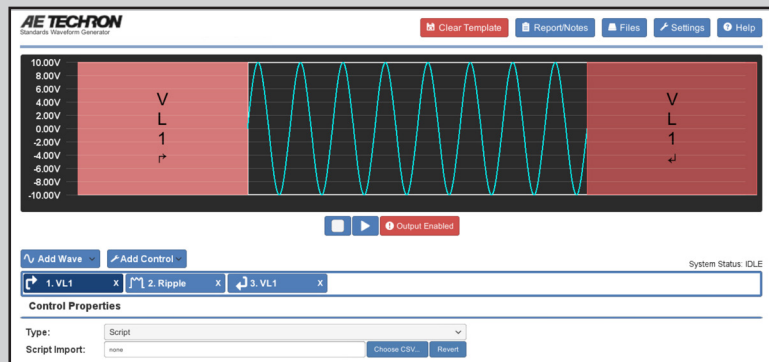

Figure 6.13 – Script VL Creation - Select “Script” Type
3. Open the properties window for the Variable Loop Start segment and change the Type property to “Script.” A new property labeled “Script Import” will appear in the Control Properties window. See **Figure 6.13**.